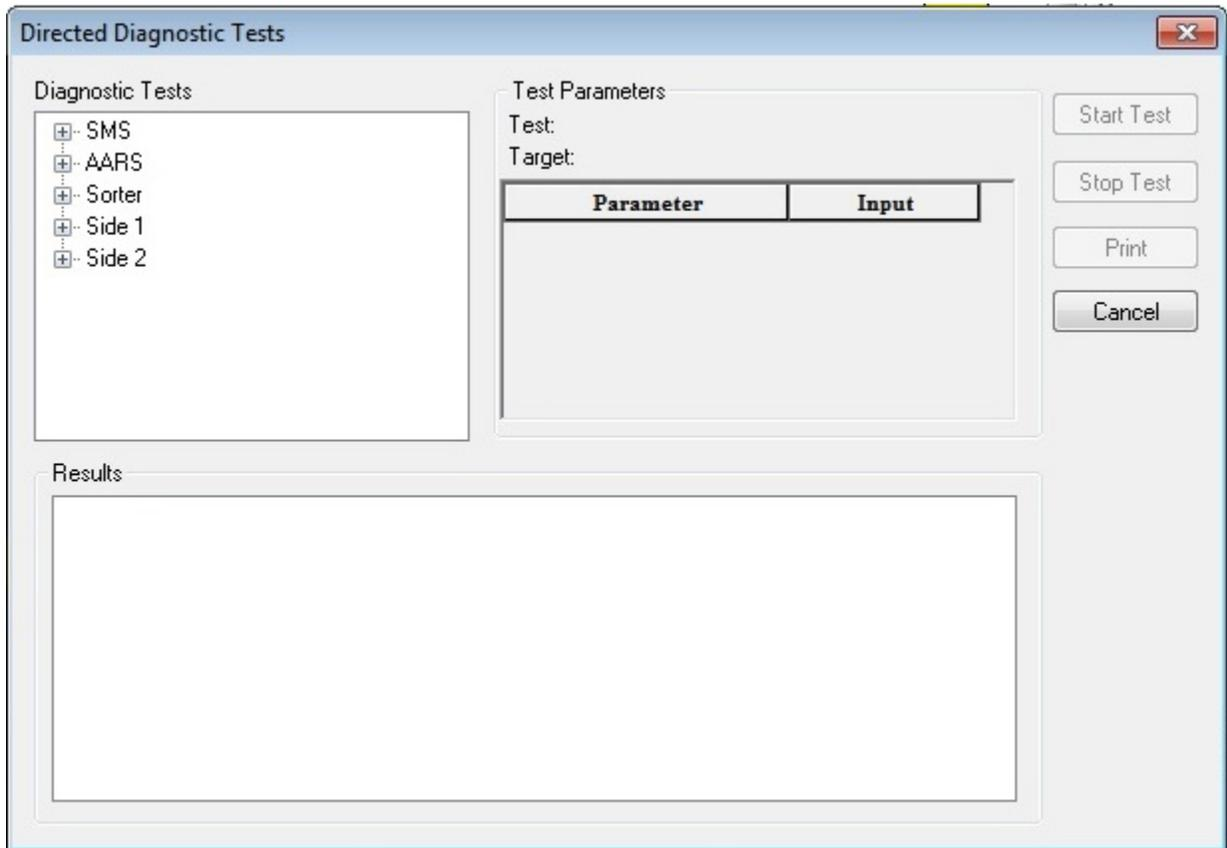

Figure 1-2. Directed Diagnostics Tests Dialog
6. Click **plus sign (+)** to the left of **Side 1 (or Side 2)** (Figure 1-2).